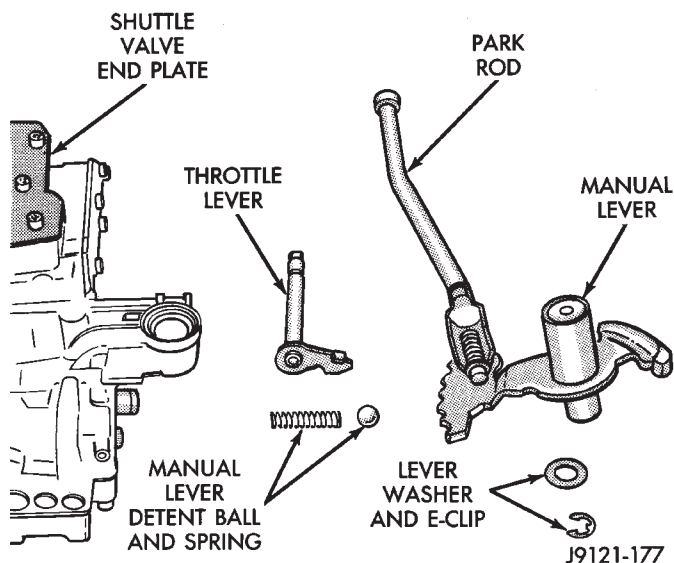

Fig. 104 Removing Manual And Throttle Levers
(4) Remove manual shaft E-clip and washer (Fig. 104).
(5) Pull manual shaft and park rod assembly upward out of valve body and off throttle lever (Fig. 104).
(6) Remove Retainer Tool 6583. Then remove and retain detent ball and spring.
(7) Remove throttle lever (Fig. 104).